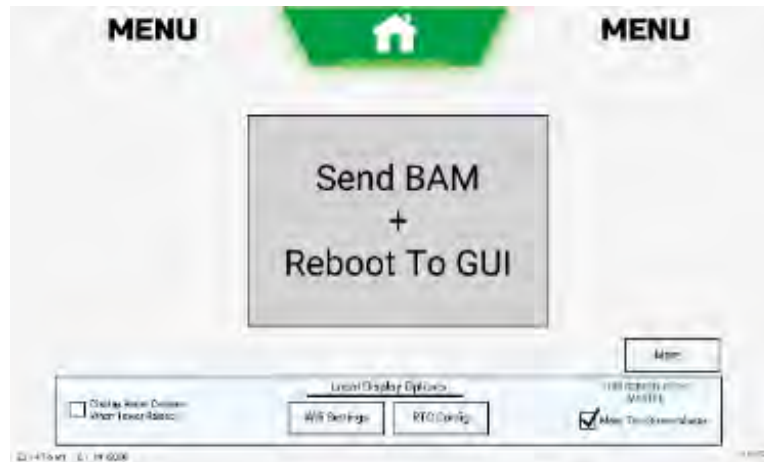

Figure 164. Update Network With New Configuration Information Screen
- C. Touch Send BAM + Reboot To GUI button (Figure 164) to reboot system to user interface.